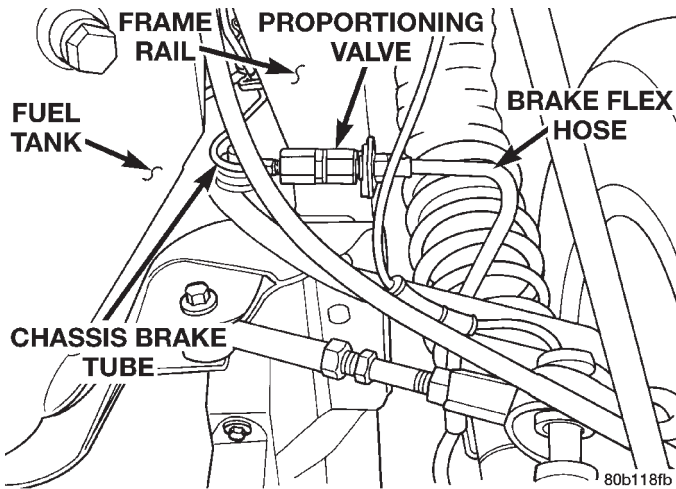

Fig. 14 Proportioning Valve Location
One proportioning valve controls the right rear brake, and the other proportioning valve controls the left rear brake (Fig. 14). Therefore, a road test to determine which rear brake slides first is essential. Once the wheel which is skidding first is determined,
(1) Remove the chassis brake tube (Fig. 14) from the proportioning valve controlling the rear wheel of the vehicle which has premature wheel skid.